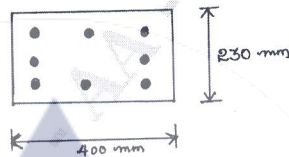

Fig.Q.1(c)
- c. A reinforced concrete column of size 230mm × 400mm has 8 steel bars of 12mm diameter as shown in Fig.Q.1(c). If the column is subjected to an axial compression of 600kN, find the stress developed in steel and concrete. (Take modular ratio =  $\frac{E_s}{E_c} = 18.67$ ) (10 Marks)